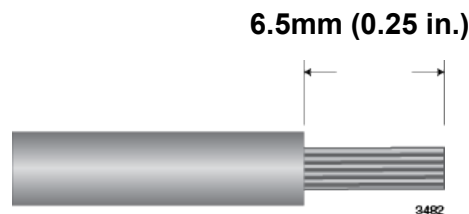

Figure 63. Stripping a Power Cable Wire
1. Strip 6.5mm (0.25 in.) of insulation from the ends of the stranded power wires with a wire insulator stripper. Refer to Figure 63.